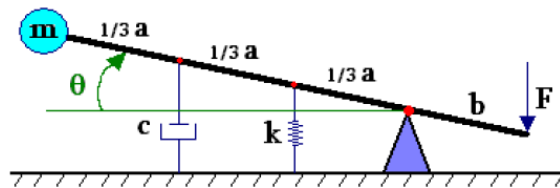

Fig. 7: Swing system
**Question 4.** Consider the system  $G_{sw} : F \mapsto \theta$  shown in Fig. 7. A force  $f$  is applied on a massless rod,